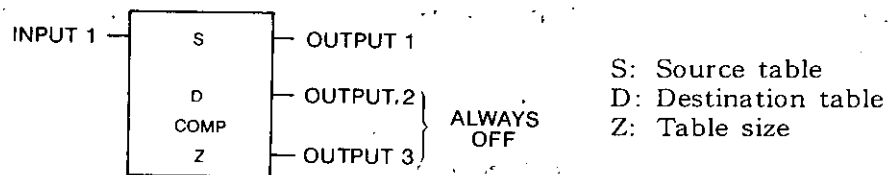

Fig. 5.83 COMP Genral Form
- Fig. 5.83 shows the form of complement.